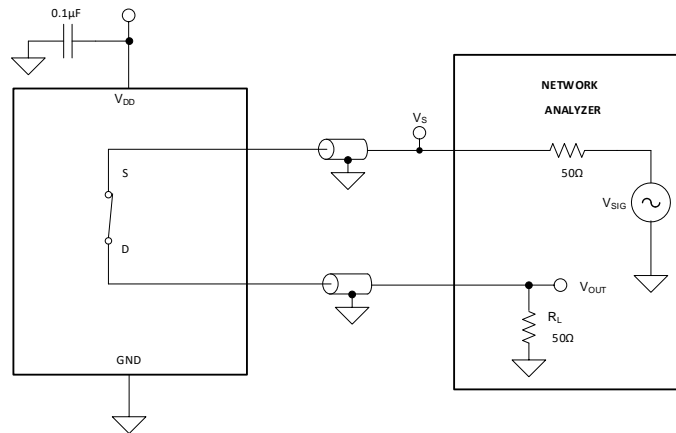

**Figure 15. Channel-to-Channel Crosstalk Measurement Setup**
Crosstalk is defined as the ratio of the signal at the drain pin (D) of a different channel, when a signal is applied at the source pin (Sx) of an on-channel. **Figure 15** shows the setup used to measure, and the equation used to compute crosstalk.